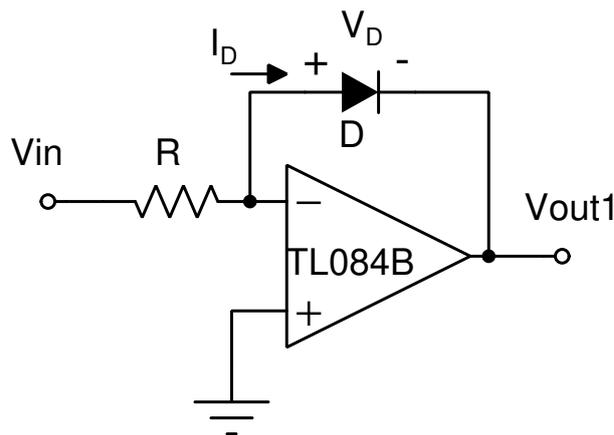
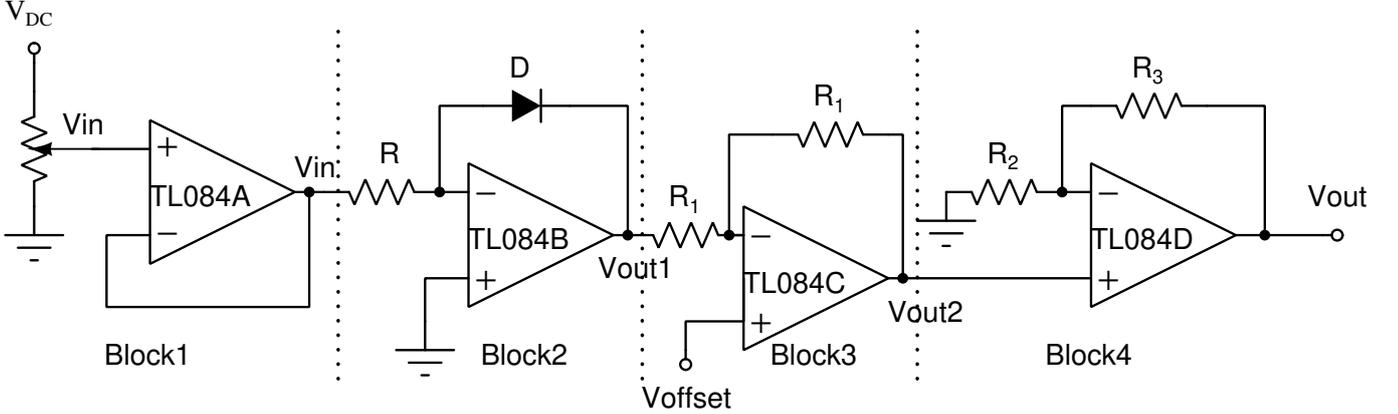

Figure 1: Basic log-amp circuit. For this circuit to function as a log-amp, the polarity of the input voltage should be positive.
Figure 2: Complete logarithmic amplifier circuit.
A voltage can be easily converted to a current using the inverting amplifier configuration. You may please draw the circuit in your note book. The voltage applied to the input resistor is converted to a current,  $I = V_{in}/R$ , where  $R$  is the input resistor connected to the inverting terminal of the amplifier. The same current  $I$  is then forced through the device connected between the output of the op-amp and the inverting terminal. The device can as well be a diode. The circuit is given in figure 1.
From figure 1,
Equation (8) tells us that the output of the circuit in figure 1 is the natural logarithm of the input scaled by a factor  $a_1$  and then offset by  $a_2$ . We can remove the offset by subtracting  $a_2$  from  $V_{out1}$ . The result can then be multiplied by  $1/a_1$  using a suitable amplifier, to obtain at the output the true natural logarithm of  $V_{in}$ . The complete circuit is shown in figure 2.